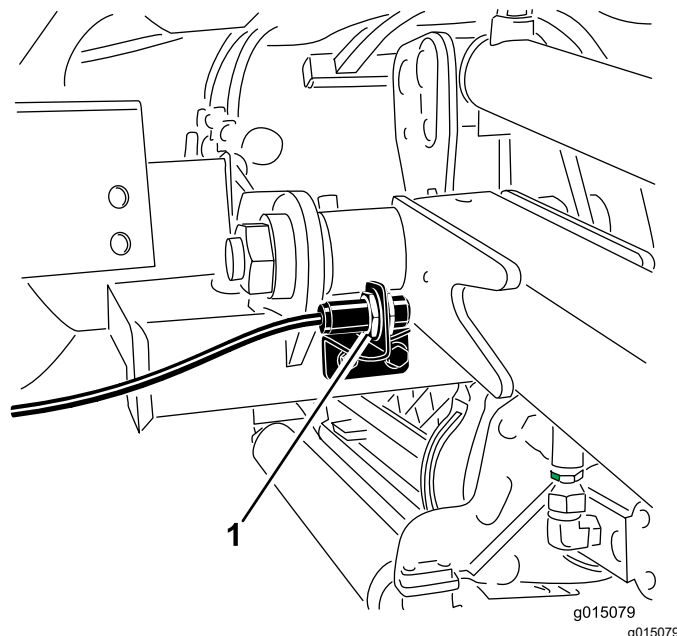

Figure 72
2. The lift-arm switch is located behind the front right lift arm (Figure 72).
3. Loosen the switch mounting screws (Figure 72) and move the switch up to increase the lift-arm turnaround height or move the switch down to decrease the lift-arm turnaround height.